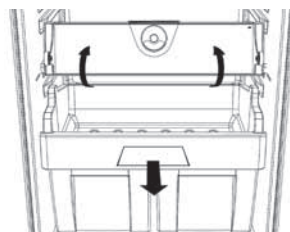

Fig. 1
1. Remove the compartment drawer (Figure 1).